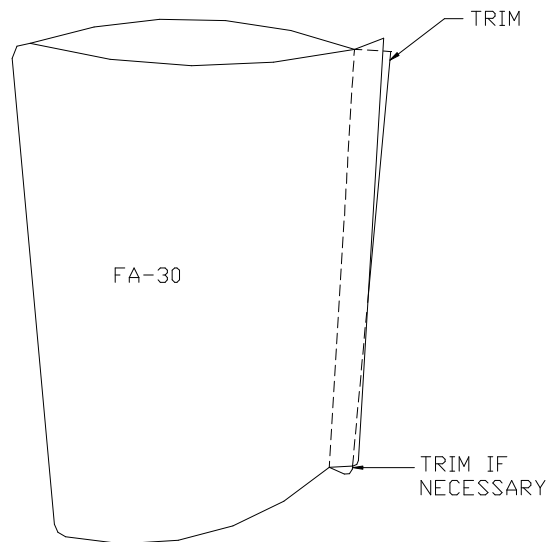

Fig. 24.4.3
- 6) When a good fit to the Wing and a snug fit around the Strut is attained, mark two holes with a 1/4" edge distance at the top and bottom in the flange of the Fairing. Drill #30 holes. If the bottom of the Fairing is slightly crooked remove it now and trim. Replace Fairing and cleco. Figure 24.4.3.